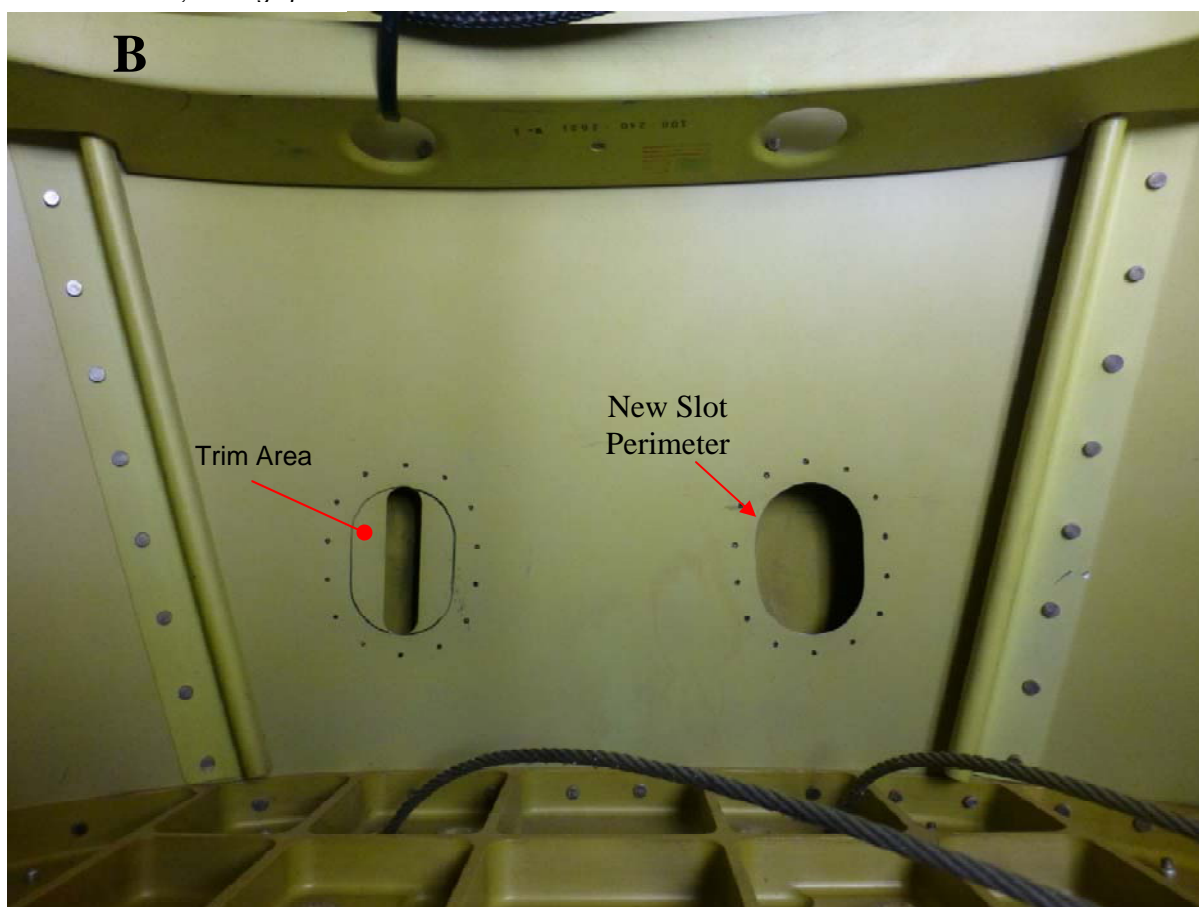

Figure 5-2: Trim Area
Refer to **Figure 5-2**.
1. Center the doubler over the hole as shown in **Figure 5-2 (A)**.